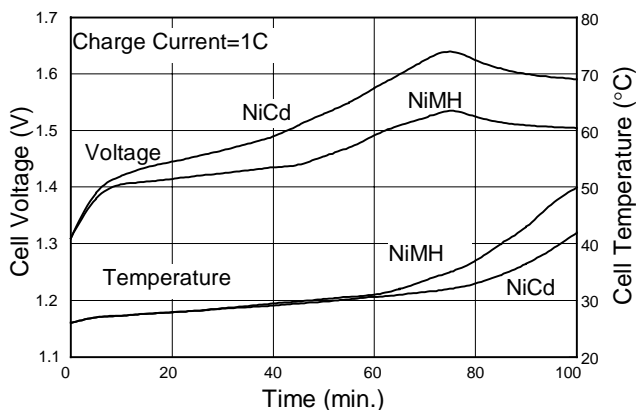

Fig. 1 Typical Charge Characteristics of NiMH/NiCd Battery
The basic principle of rechargeable battery systems, including NiMH and NiCd cells, is that the processes of charge and discharge are reversible. The charge characteristics of NiMH and NiCd cells look similar in that (1) the cell voltage at the end of charge drops and (2) the cell temperature increases rapidly near the end of charge. Fig. 1 shows the charge voltage and charge temperature characteristics of NiMH and NiCd cells. Notice that the cell voltage decline of NiMH cells at the end of charge is less pronounced than for NiCd cells.